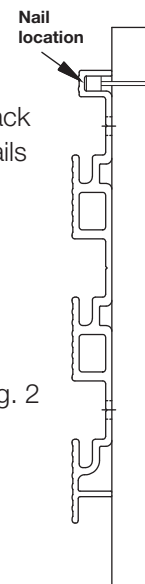

Fig. 2
3. Position the channel found at the top back of the Wall Track over the Installation Nails in the wall. (See Fig. 2)